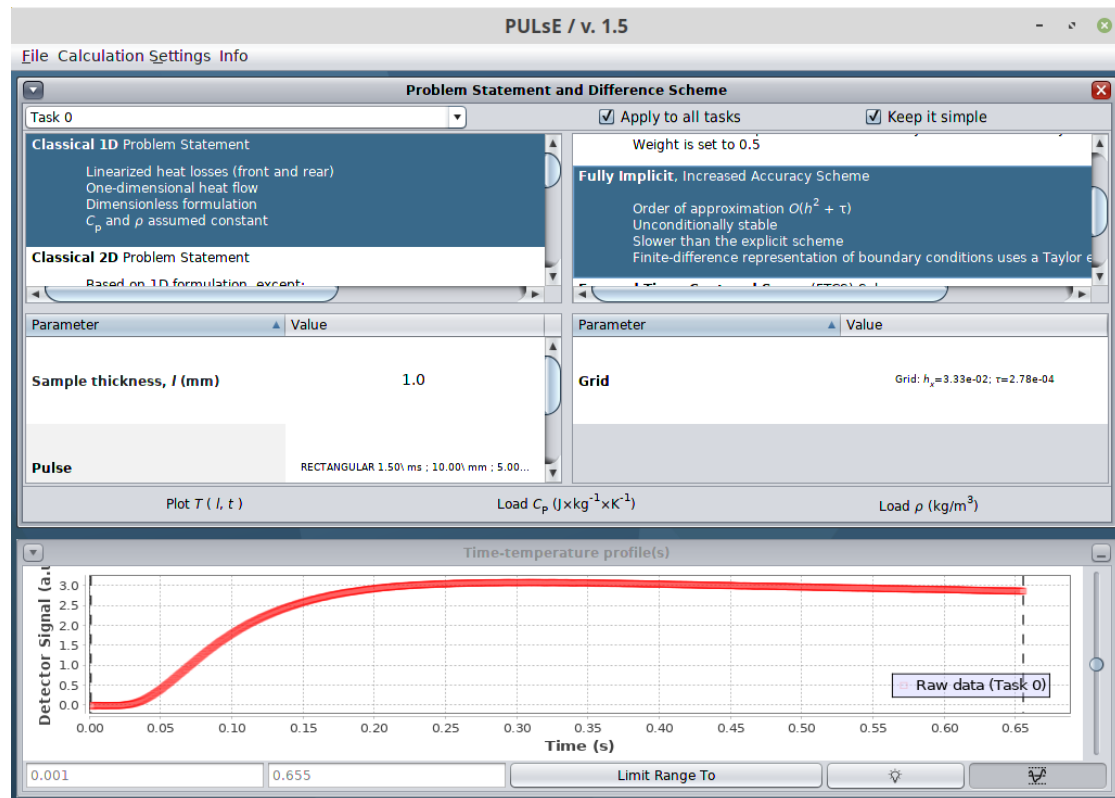

Figure 7: Choosing the heat transfer model and parameters.
- (a) Selecting this item opens an internal frame, allowing the user to choose the heat transfer model and specify any parameters that will be used for calculation (Fig 7). In addition to selecting a problem statement, the user must also select the difference scheme that will be applied to solve this problem;